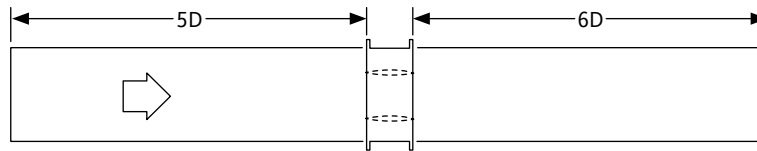

Figure 5.3
The air performance of a damper is described by the pressure drop across the damper. So what is pressure drop? Pressure drop can be defined as the resistance to airflow across an open damper and increases as turbulent flow increases. Pressure drop is figured using one of the three arrangements found below. Ruskin's pressure drop testing was conducted in accordance with AMCA Standard 500 using figure 5.3 shown. All data has been corrected to represent standard air at a density of .075 lb/ft'. Actual pressure drop found in any HVAC system is dependent upon many factors. This pressure drop information along with an analysis of other system influences should be used to estimate actual pressure losses for a damper installed in a given HVAC system.
Figure 5.3 illustrates a fully ducted damper. This configuration has the lowest pressure drop of the three test configurations.
1. Ratings are based on AMCA Standard 500 using test set up apparatus figures 5.3 (damper installed with duct upstream and downstream).
1. Ratings are based on AMCA Standard 500 using Test Setup Apparatus Figure 5.3 (damper installed with duct upstream and downstream).